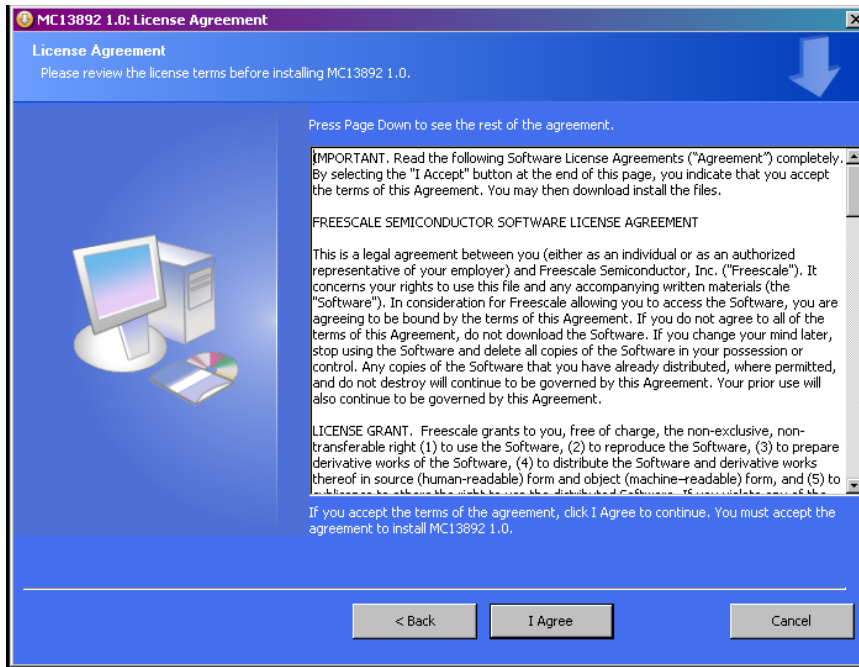

Figure 13. License Agreement
1. Double-Click to the executable file. The installer shall run immediately and will look like as depicted in Figure 13.